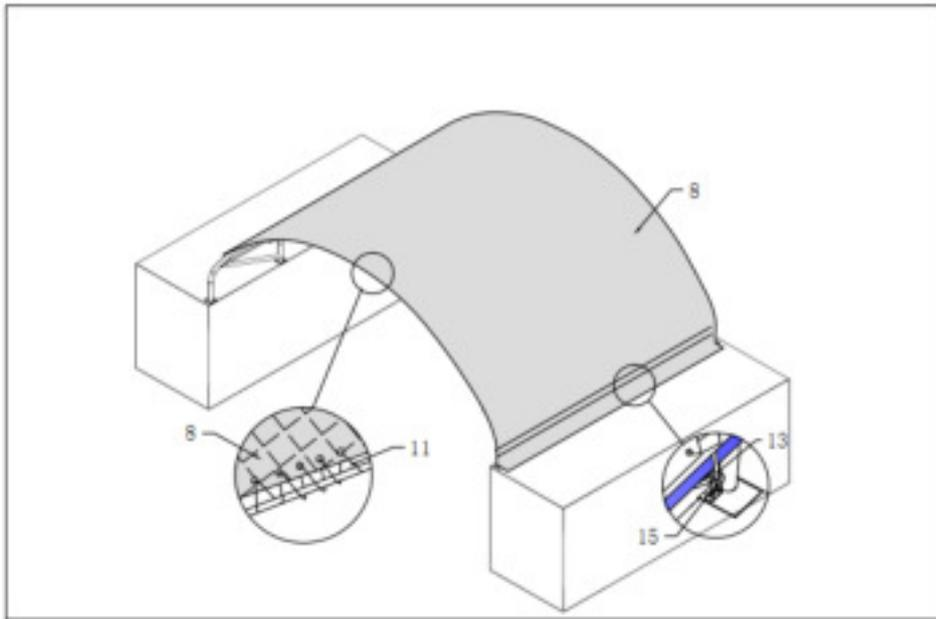

Figure 10
3. As **Figure 10 shown**, Cut **some pockets** according to the position of the base plates and put the lower tensioning tubes for roof cover (part code 7) into the pocket of roof cover. Then use Straps (part code 13) to tie down the Lower tensioning tubes like the Figure. Finally install the ϕ 32 Plastic plug for base rail section (part code 12) into two end of the lower tensioning tubes.